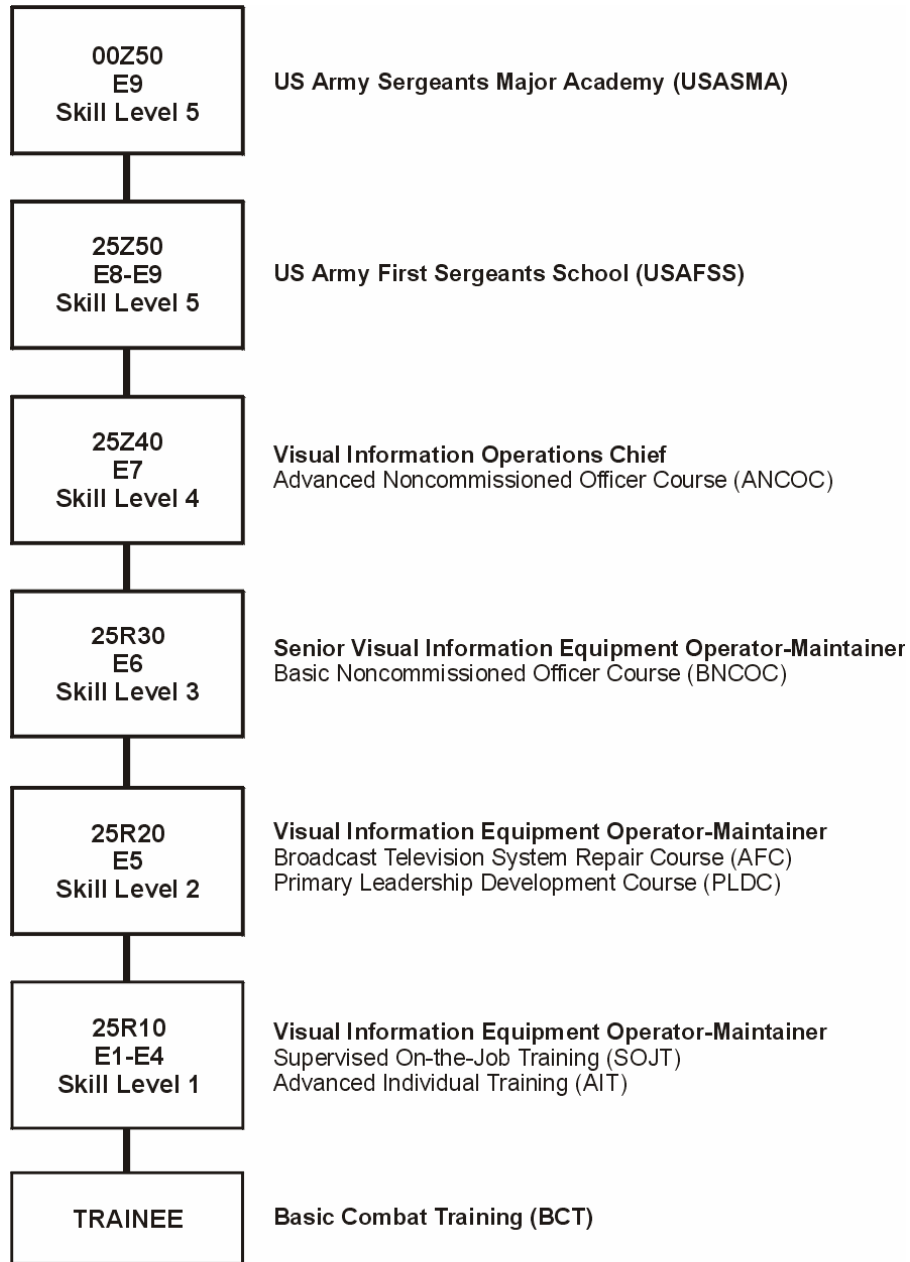

Figure 1-1. Skill Level and Training Progression, MOS 25R
b. The EPMS is a management system to improve the professionalism of the enlisted ranks. Successful soldiers perform assigned duties efficiently, take advantage of opportunities for training and promotion, and establish career goals. EPMS provides a logical career development path by establishing a system of career-long training that prepares soldiers to take on duties of the next higher grade. A training program was designed for the skill levels of each MOS. This publication is an outline of that training program for MOS 25R. The skill and training progression chart for MOS 25R (Figure 1-1) shows the entry level soldier the path to follow to SL5. There are no decision points for the 25R soldier.